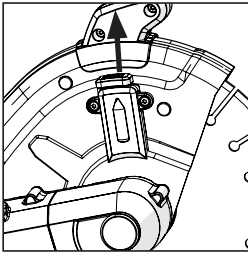

FIG. 4
- Operate the blade guard locking system by pulling the locking pin upwards. **(Fig. 4)**